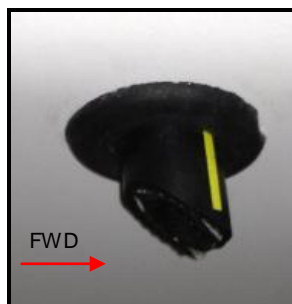

Figure 13: Drain Hole of Cargo Pod Fuel Drain Compartment
- m. Fit drain hose (GA8-255024-073) to grommet with Loctite 406 (or equivalent) adhesive. Trim hose flush with top of grommet and protruding slightly from the bottom of the cargo pod, facing aft sheared at a 45° angle, Figure 13.